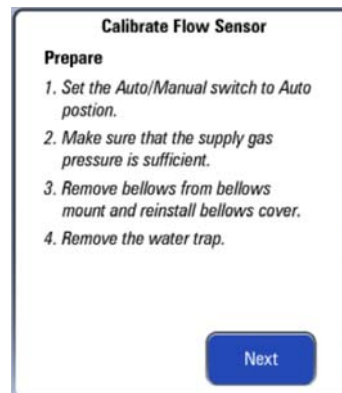

FIGURE 7-2 Flow Sensor Calibration Begin
9. Follow the on-screen prompts and select the **Begin** button to start to calibrate the flow sensor (see FIGURE 7-2). The calibration process takes several minutes. The system will display the results of the calibration status when the process is completed.